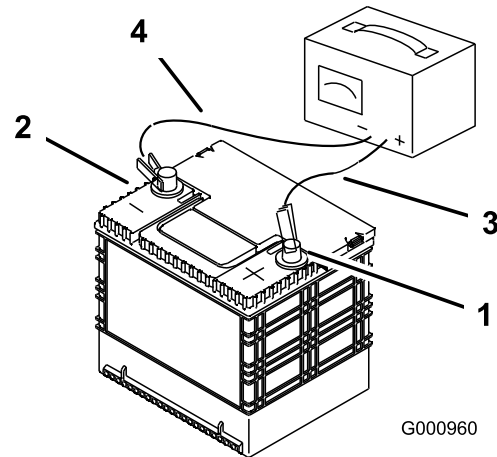

Figure 44
2. When the battery is fully charged, unplug the charger from the electrical outlet, then disconnect the charger leads from the battery posts (Figure 44).